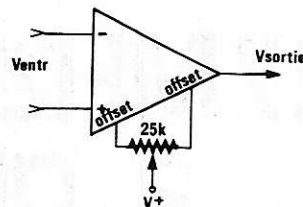

Figure 11
9) ANNULATION DE LA TENSION D'OFFSET (figure 11).